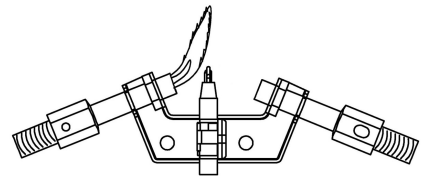

Figure 20 – Incorrect Pilot Flame Pattern
- Figure 20 shows an incorrect pilot flame pattern. The incorrect pilot flame is not touching the thermocouple. This will cause the thermocouple to cool. When the thermocouple cools, the heater will shut down.
- If the pilot flame is incorrect, as shown in Figure 20. Turn heater off (see "To Turn Off Gas to Appliance," page 20) See *Troubleshooting*, page 22 through 24.